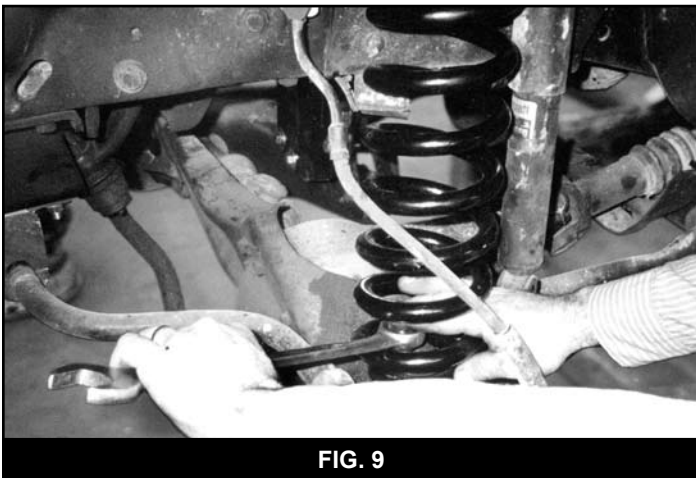

FIG. 9
22. Coil spring installation. Place the small end of the new coil on the coil seat and spin the coil into the upper tower. Be sure the spring keeper tabs are bent back into their original position. Tighten the bottom coil retaining nut to 70 ft.lbs. (Fig. 9)